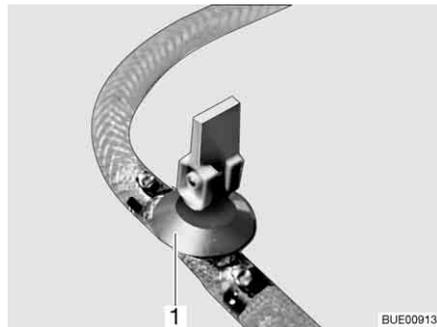
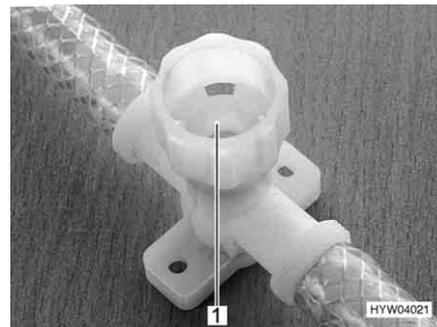

Fig. 220 Drain cock (with rocking lever)
Fig. 221 Drain cock (with twist cap)
- Close all drain cocks. To do this, position the drain cock's rocking lever (Fig. 220,1) horizontally or turn the drain cock's cap (Fig. 221,1) in a clockwise direction.